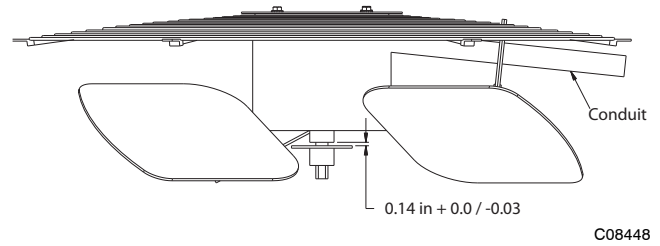

Fig. 30 - Condenser Fan Adjustment
4. Adjust fan height as shown in Fig. 30.